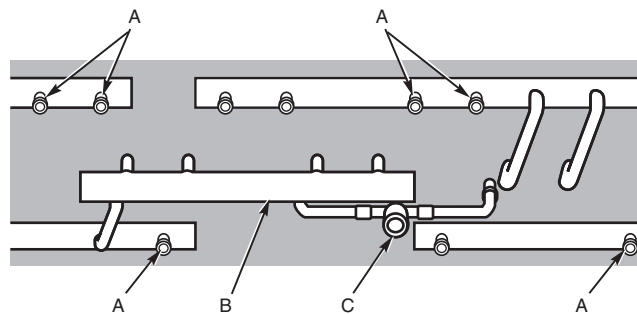

Fig. 11 — Parts Added to 09DK028,034 Unit (To Obtain 40/40/20% Circuiting)
- a. Cap the open stub tubes on the left and right gas and liquid headers with stub tube caps supplied in the parts kit. See Fig. 11, Item A.
- b. Insert the $\frac{7}{8}$ -in. diam header into the stub tubes located in the top row of the coil. See Fig. 11, Item B.
- c. Insert the 6-in. length U tube into the stub tubes located in the bottom row of the coil. See Fig. 11, Item C.